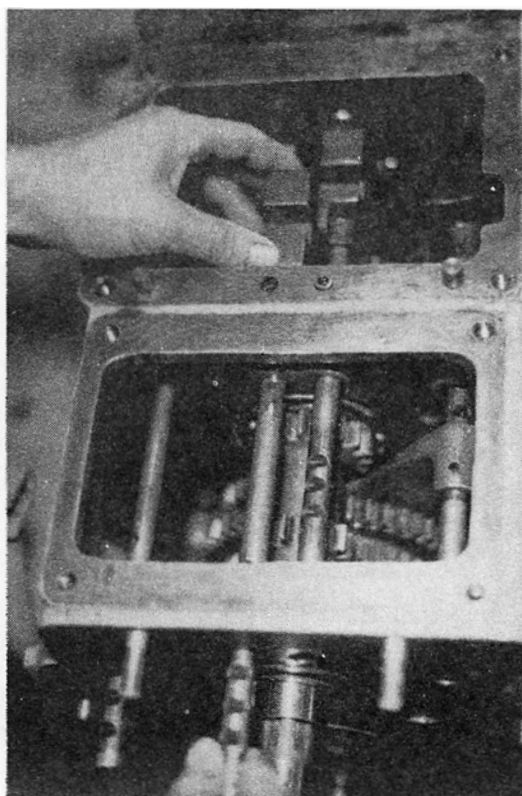

Figure 5
22. Remove the shifter rods one at a time, then remove the detent balls and springs. Be careful not to drop the ball pin into the transmission case, Figure 5.